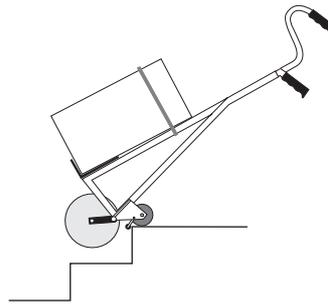

FIGURE 36
3. Push the up/down switch to “DOWN” — the **CargoMaster** starts its descent. The downward movement begins with the lowering of the big wheels to the next step (see Figure 36).